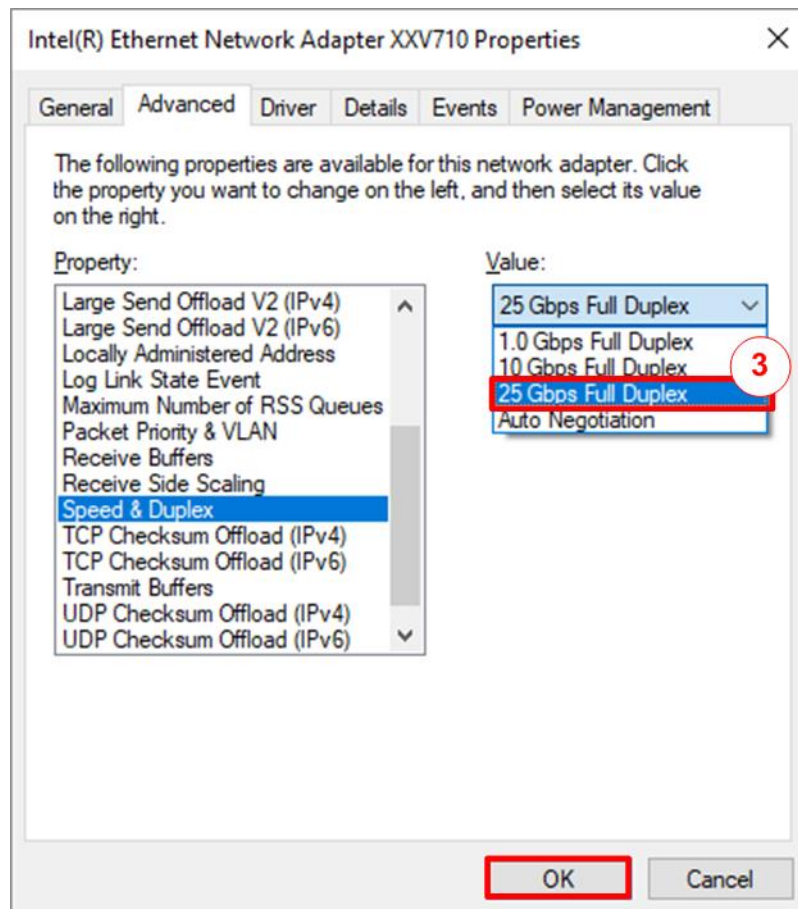

Figure 2-3 Set link speed = 25 Gbps
- 3) Select “Speed & Duplex”. Set value to “25 Gbps Full Duplex” for running 25-Gigabit transfer test, as shown in Figure 2-3.